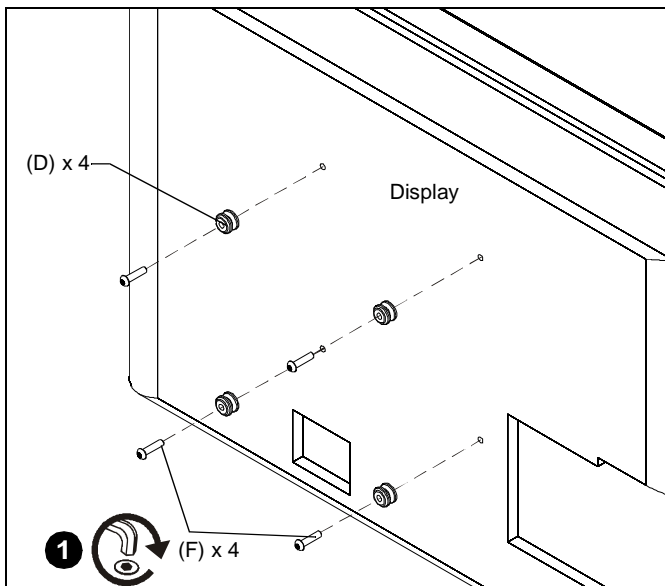

Figure 1
1. Install four M6 x 25mm button head cap screws (F) through non-threaded mounting buttons (D) and into holes on back of display. (See Figure 1)